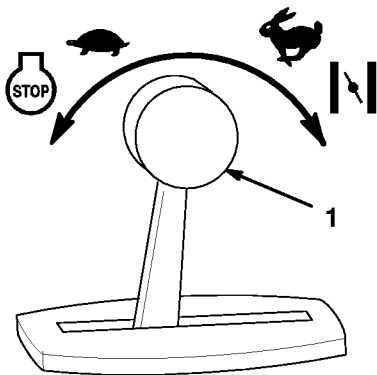

Figure 11
1. Move throttle control to  CHOKE position (Fig. 11).